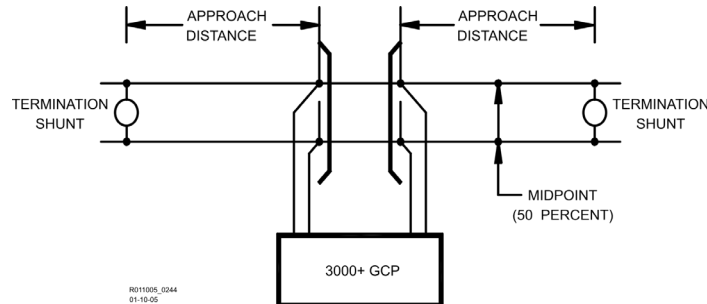

Figure 7 Midpoint Location
Step 3	Place a hardwire test shunt across the track at location A (refer to Figure 7).
Step 6	Accurately (within 1%) locate the midpoint of the longest approach and move the hardwire shunt to that point on the rails (see Figure 7).
Step 18	Accurately (within 1%) locate the midpoint of this approach and move the hardwire shunt to that point on the rails (see Figure 7)